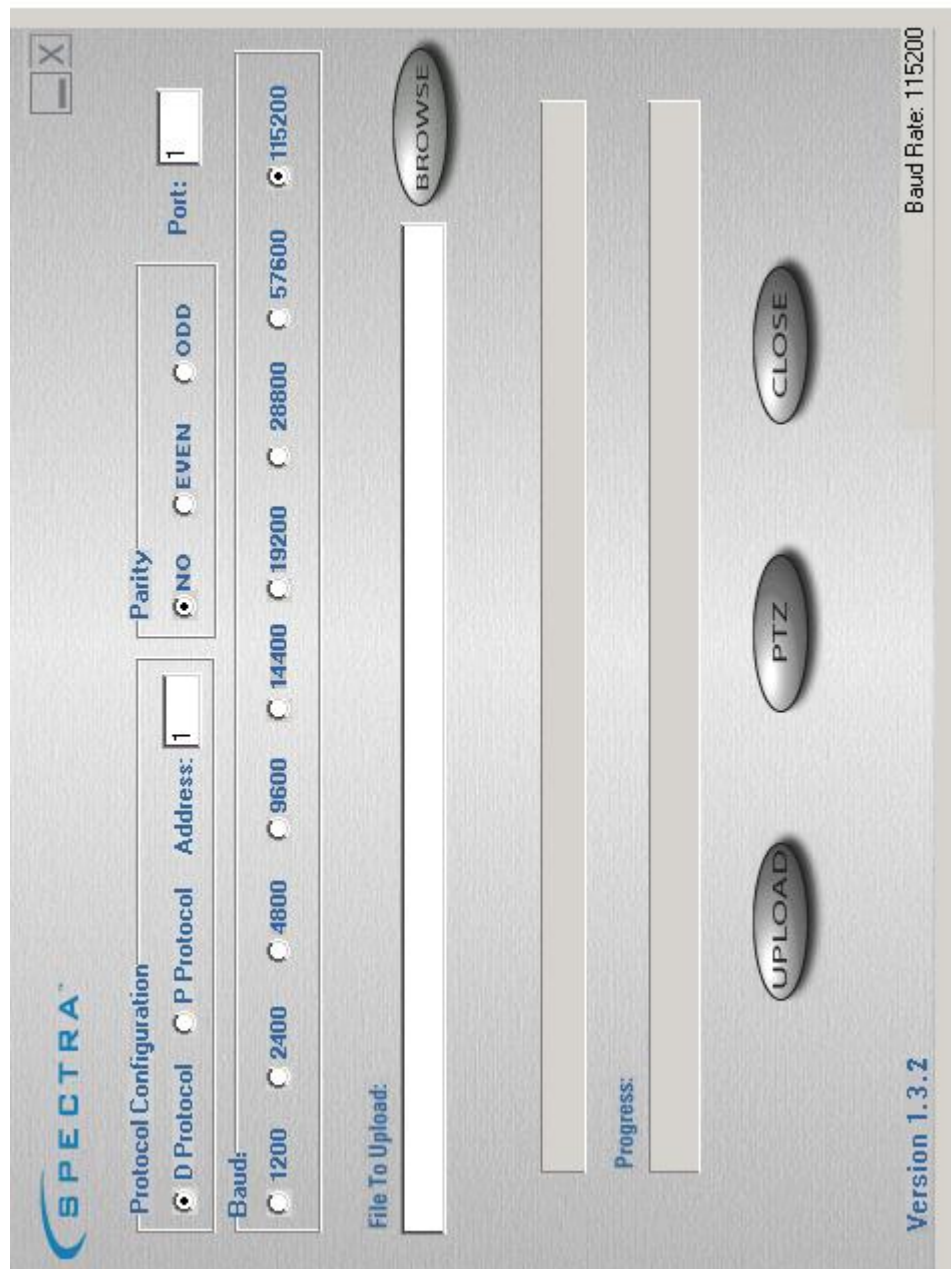

Figure 4: Main screen of the downloader for rev 1.3.2
4. The current Downloader screen is shown in Figure 4, page 11. Now the some of the changes that I have put in are visible in that the most likely to be use “radio button” options have been selected and the COM port has been set to 1. The address field has always been setup.